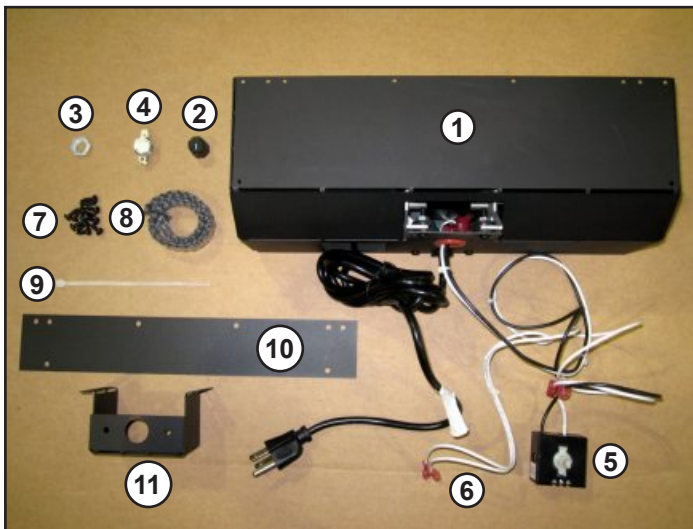

Figure 8.3 - Fan Kit Contents
1. Open and inspect contents of the blower kit. The contents of the kit are listed above and shown below in Figure 8.3. If any of the parts are missing or damaged, please contact your dealer for replacements.